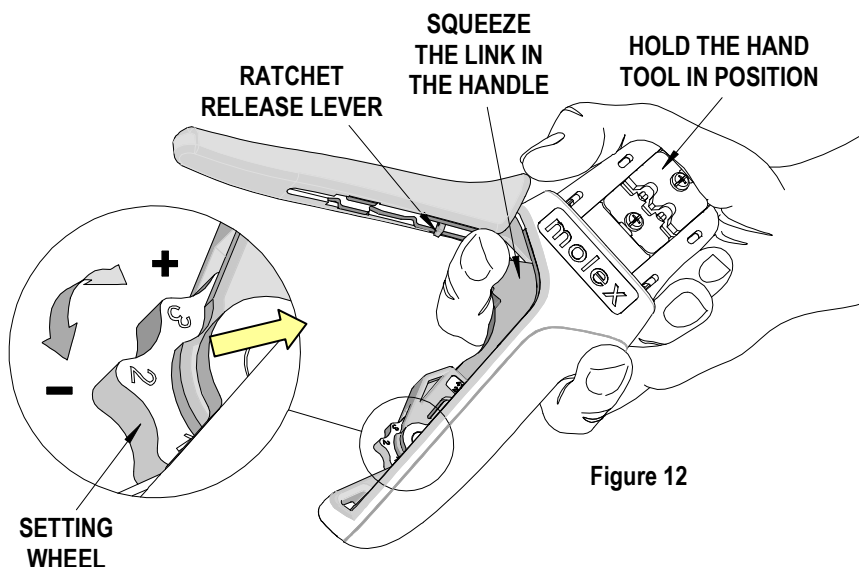

Figure 12
How to Adjust Tool Preload (See Figure 12)
1. Hold the hand tool in the palm of your hand as shown in Figure 12. Using the index finger squeeze the link towards the top of the hand tool frame. This will release the preload adjustment wheel.
2. Rotate the setting wheel counter-clockwise (CCW) to increase handle force. The numbers will display higher. To decrease handle force, rotate the setting wheel clockwise (CW).